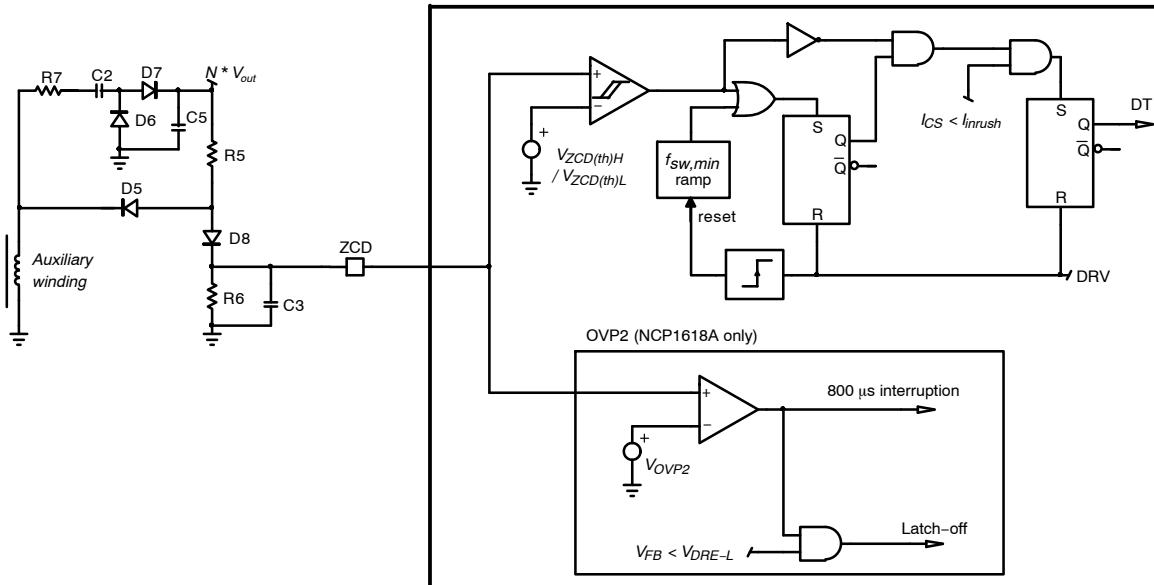

Figure 10. Zero Current Detection Block
Application note AND90011 discusses recommended circuitries for an accurate ZCD and OVP2 detections. Figure 10 provides one of these circuitries. In this circuit,  $R_7$  being small, capacitor  $C_2$  is charged to
Figure 10 shows how the NCP1618 detects the valley.
- The ZCD pin impedance (for instance  $R_3$  of Figure 10), must be higher than 7.5 kΩ not to trigger the ZCD pin short-to ground protection.
If no ZCD can be detected when the circuit operates in FCCrM mode, the circuit cannot use the valley detection to start a new current cycle. In this case, the next DRV pulse is forced by the DCM minimum frequency ramp ( $f_{sw,min}$  ramp of Figure 10) which acts as a watchdog.
- If the pin is grounded, no falling edge of the auxiliary winding can be detected. The DRV remains off until the DCM minimum frequency ramp initiates a new cycle. Before the new pulse is generated, the circuit senses the pin impedance by sourcing 250 μA. No DRV pulses are generated until the pin voltage exceeds  $V_{ZCDH}$ . Hence, the part is inhibited when the pin is grounded. Not to trigger this protection, the pin impedance (for instance  $R_3$  of Figure 10, must be higher than 7.5 kΩ).